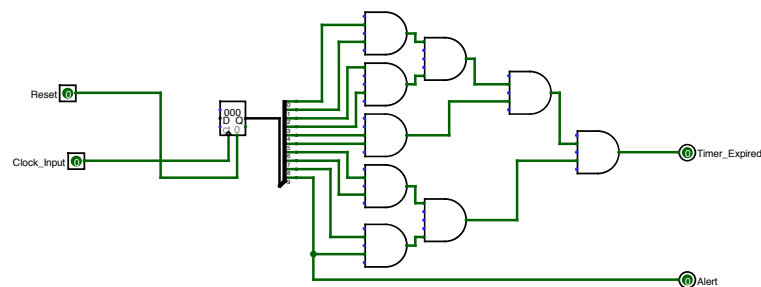

Figure 2: TimerAlert
In this section, you will create a 'TimerAlert' circuit in Logisim, as shown in Fig. 2
5. Connect the input pins to the counter as shown in Fig. 2.
8. Connect the 10 outputs from the splitter to AND gates as shown in Fig. 2. Connect the AND gates together.
9. Add 2 output pins and name them as shown in Fig. 2.